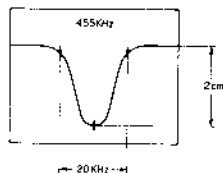

Fig. 13
- 2) Connect Genescope output to Test Point (TP) and Genescope Input to Point (S) (AF Output).
- 4) Adjust cores of IFT, T₁, T₂, and T₃ of AM IF Amp PC Board so that the waveform (Fig. 13) level is maximum and center frequency is 455 kHz (Center frequency differs according to country. Adjust according to country's center frequency).